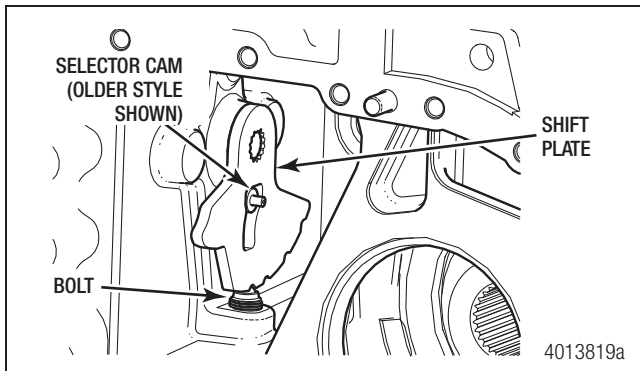

Figure 7.6
1. If removed, install the shift plate through the hole in the front case. Figure 7.6.